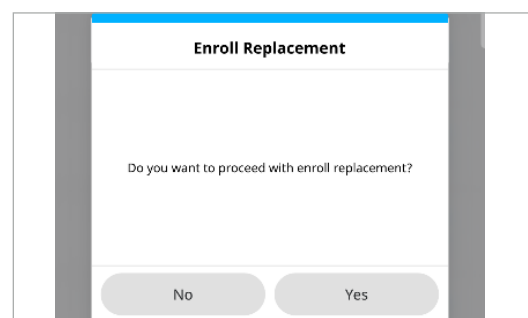

Figure 31
- Select “Yes” to proceed with Enroll Replacement **(Figure 31)**